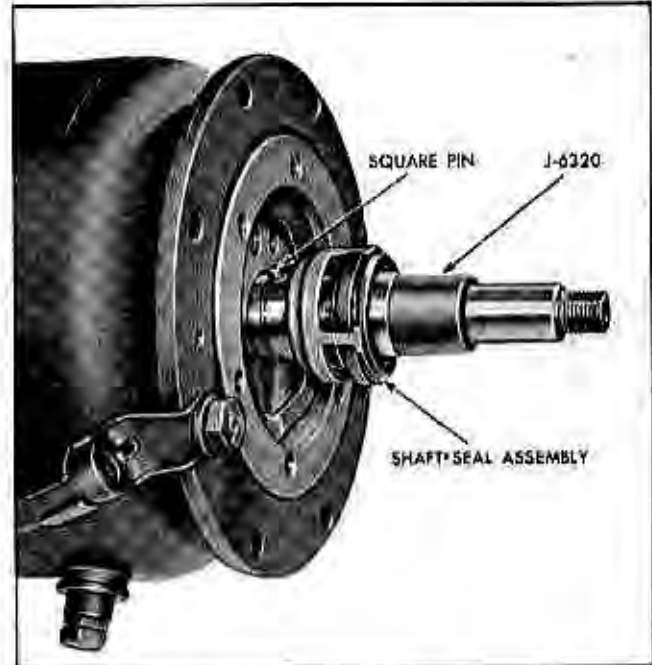

Fig. 6-64 Installing Shaft Seal
2. Position the J-6320 Compressor Seal Protector on the compressor shaft with the small tapered end of the tool towards the end of the shaft, and install seal, aligning the seal with the square pin on the compressor shaft (Fig. 6-64).